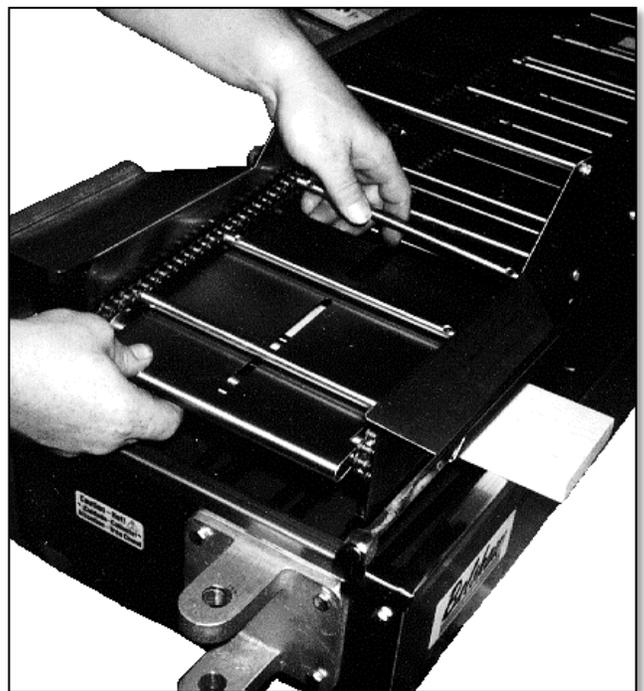

Figure 5 Removing the Drop Plate
14. To clean the drop plate, remove it by lifting its forward end and sliding it toward the rear of the conveyor. (See Figure 5) Wipe the drop plate with a damp cloth.